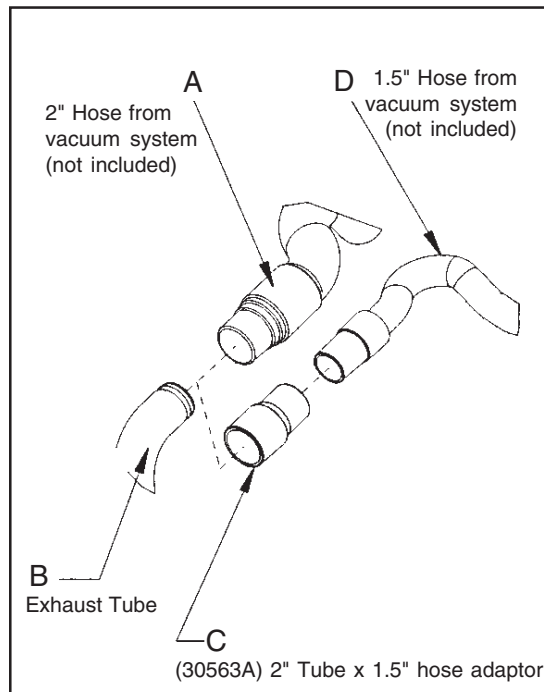

Figure 4
1. Install 2" hose end (figure 4, A) directly into the exhaust tube (figure 4, B).
1. Install the 2" x 1½" hose end adaptor (Part No. 30563A) (figure 4, C) over the exhaust tube (figure 4, B).
2. Insert 1 ½" hose end (figure 4, D) into the adaptor (figure 4, C).